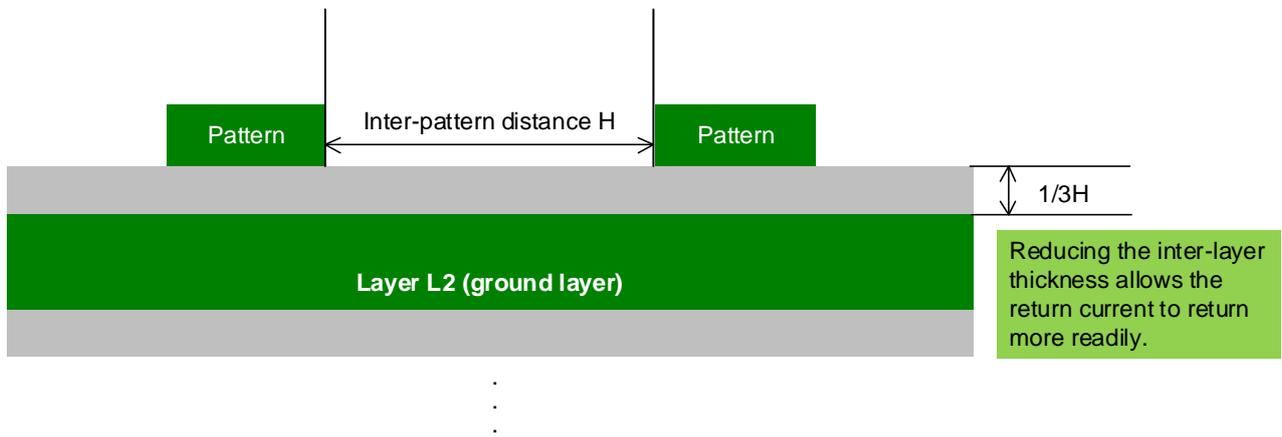

Figure 3 Return Current (Inter-layer Distance)
7. Design the inter-layer thicknesses, with the exception of that between layers L3 and L4, to be one-third the distance (H) between patterns running alongside one another (i.e., to be  $1/3H$ ) in order to allow return currents to readily return. (See Figure 3.) In addition, the inter-layer thickness affects impedance, so if there are signals subject to impedance control, take this into account when designing the board thicknesses. In the case of the Ethernet communication control board, based on impedance control and the board thicknesses that were possible for the board manufacturer that was asked to do the design, an inter-layer thickness of 0.1 mm was used, except for between layers L3 and L4.